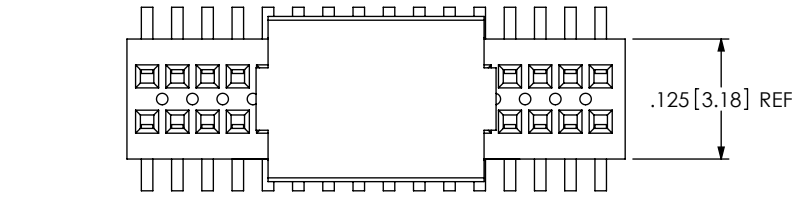

FIG 2
- P: PICK & PLACE PAD (SEE FIG 2, SHT 2)